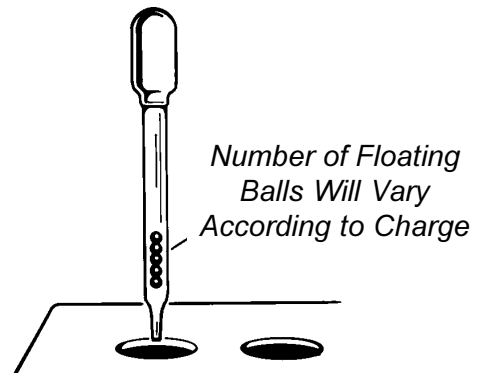

FIGURE 2 - USING HYDROMETER TO CHECK BATTERY CELLS (LEAD ACID)
**USING HYDROMETER TO CHECK BATTERY CELLS (LEAD ACID) (FIGURE 2)**